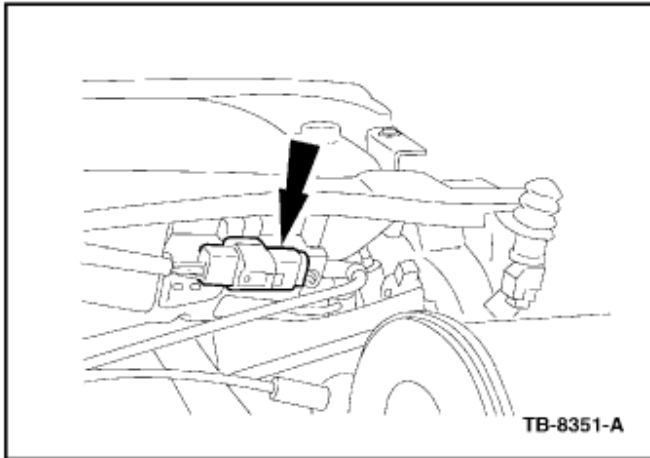

Figure 5
6. Disconnect the electrical connector. (Figure 5)